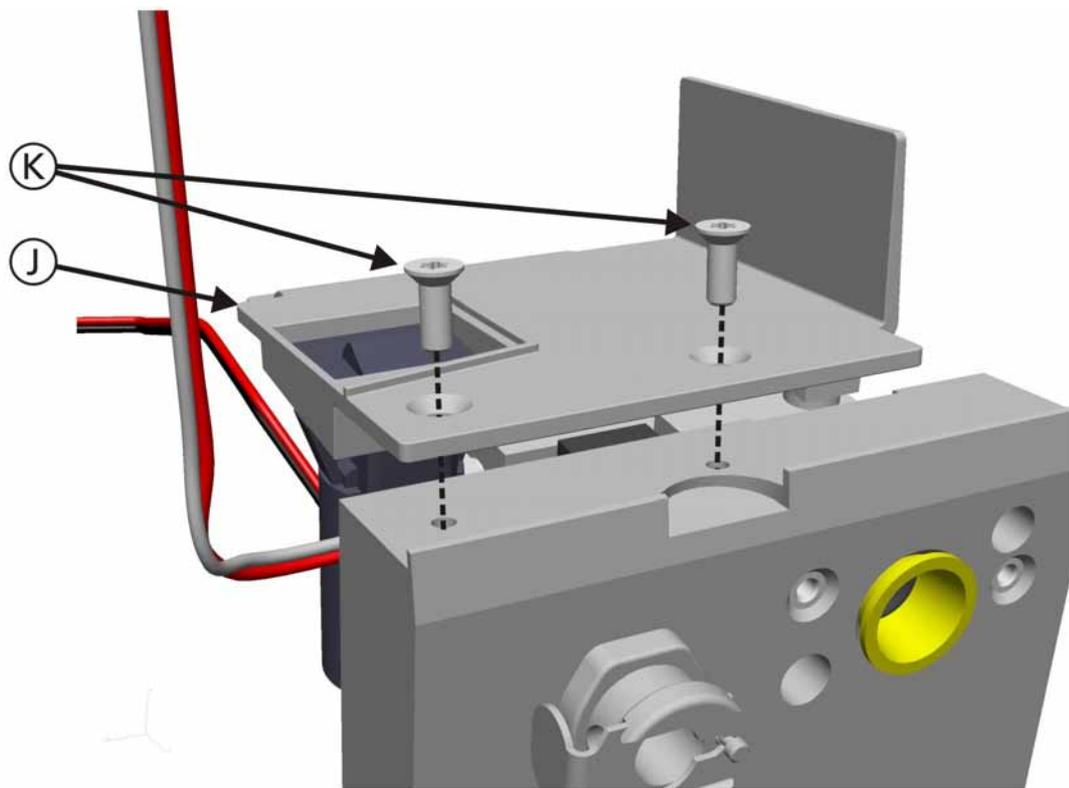

Figure 11-47. Oxygen Mixer Block Assembly, Step 4
- Figure 11-47, *Oxygen Mixer Block Assembly, Step 4*, on page 11-54